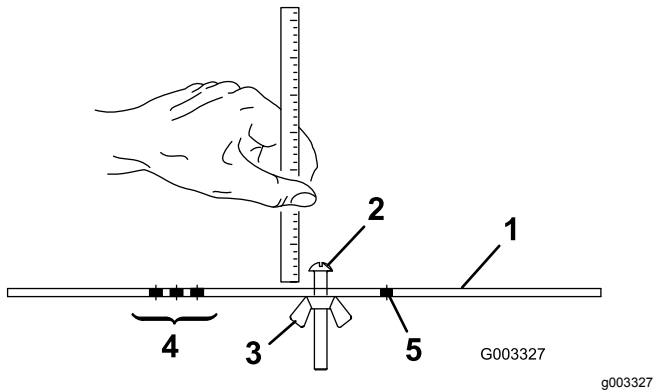

Figure 23
- Loosen the nut on the gauge bar (Figure 23) and set the adjusting screw to the desired height of cut.